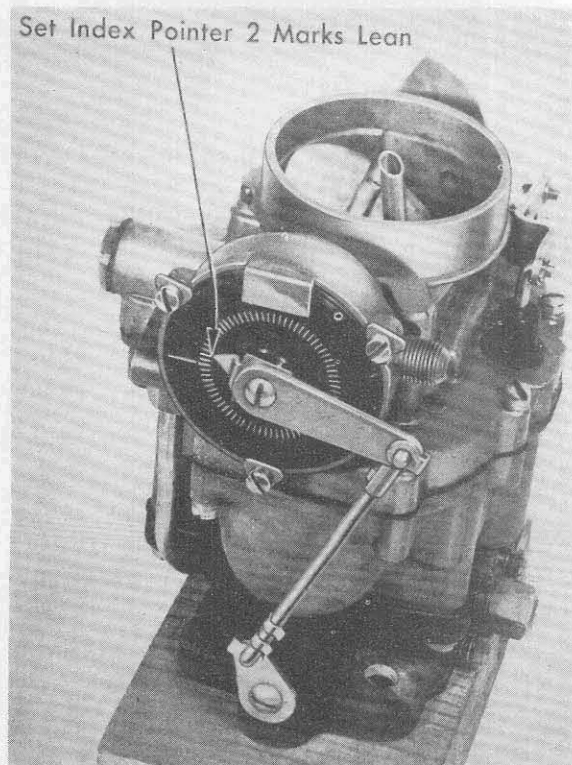

Figure 15
1. Assemble throttle shaft choke modifier lever to throttle shaft. The letters RP should face outward and the lever should be pointed towards the choke housing with the throttle valves closed. (Figure 15.)